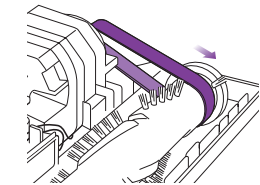

Fig. 25
- 9 Grasp the right side of the rotating brush and pull it forward, stretching the belt. Insert the end of the brush into the hole and hold it in place with your right hand. (Fig. 25)